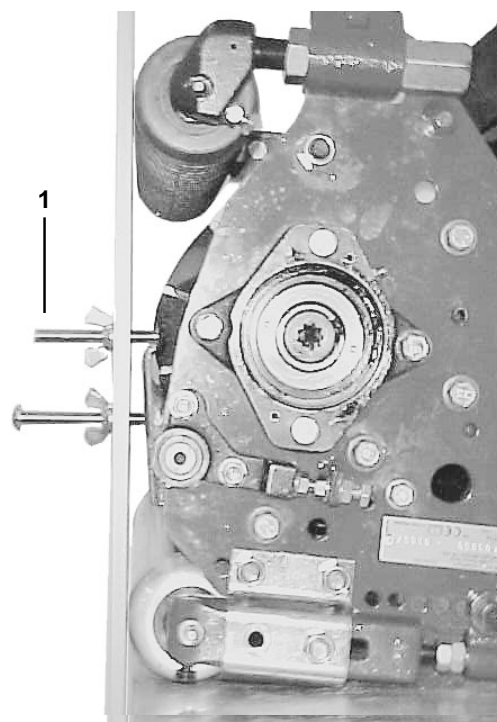

Figure 17
3. Place the gauge bar across the front and rear rollers. The first screw head needs to fit snugly over the edge of the bedknife, while the gauge bar contacts the front roller (Fig. 17).
9. Put the first screw back to the normal position (screw head hooks over bedknife) and set to desired height cut (Fig. 17).
10. Place the gauge bar across front and rear rollers. While the first screw head fits snugly over edge of the bedknife and the second screw contacts the bedknife, adjust the front roller until contacts the gauge bar (Fig. 17).